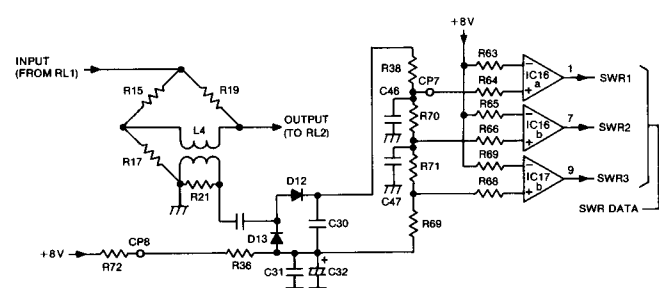
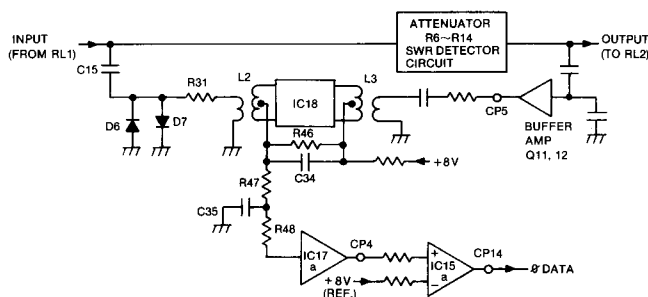

Fig. 4
Fig. 5
CAUTION: The location for connecting the red wire in step ③ below is shown in Fig. 4. Use of an improper location could result in fire risk.
- ③ Connect P5 (red wire) to any of pins J7 through J22.
- ⑥ Arrange the configuration of J2 into any of the combinations below (See Fig. 5).